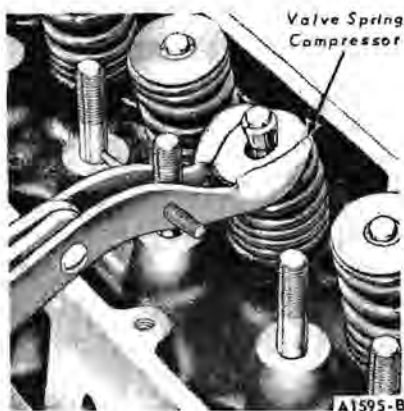

FIG. 26—Compressing Valve Spring—On Bench
3. Compress the valve springs (Fig. 26). Remove the spring retainer locks and release the spring.
2. Install the valve spring over the valve, and install the spring retainer. Compress the spring and install the retainer locks (Fig. 26).